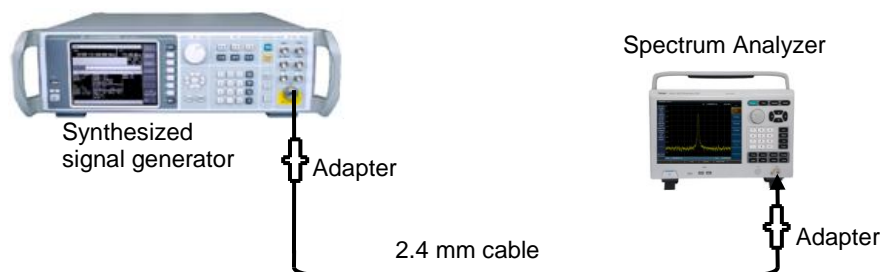

Fig 4-1 Connection diagram of signal generator and spectrum analyzer
- b) Set the frequency to 1 GHz, the power to -10 dBm, the frequency modulation frequency offset to 500 kHz, the modulation rate to 10 kHz, and then connect the output of signal generator to the RF input of spectrum analyzer with the cable, as shown in Fig 4-1, in order to generate a FM signal with the signal generator. Turn on the modulation output switch and the RF switch.
Set the frequency to 1 GHz, the power to -10 dBm, the frequency modulation frequency offset to 500 kHz, the modulation rate to 10 kHz, and then connect the output of signal generator to the RF input of spectrum analyzer with the cable, as shown in Fig 4-1, in order to generate a FM signal with the signal generator. Turn on the modulation output switch and the RF switch.